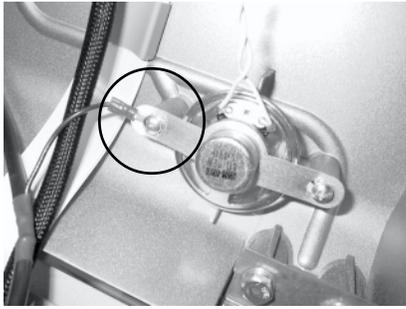

Figure 3. Connect Grounding Strap to Speaker mounting screw.
3. Route the grounding strap to the speaker and connect the **second ring terminal** to the speaker mounting screw, as shown in Figure 3.